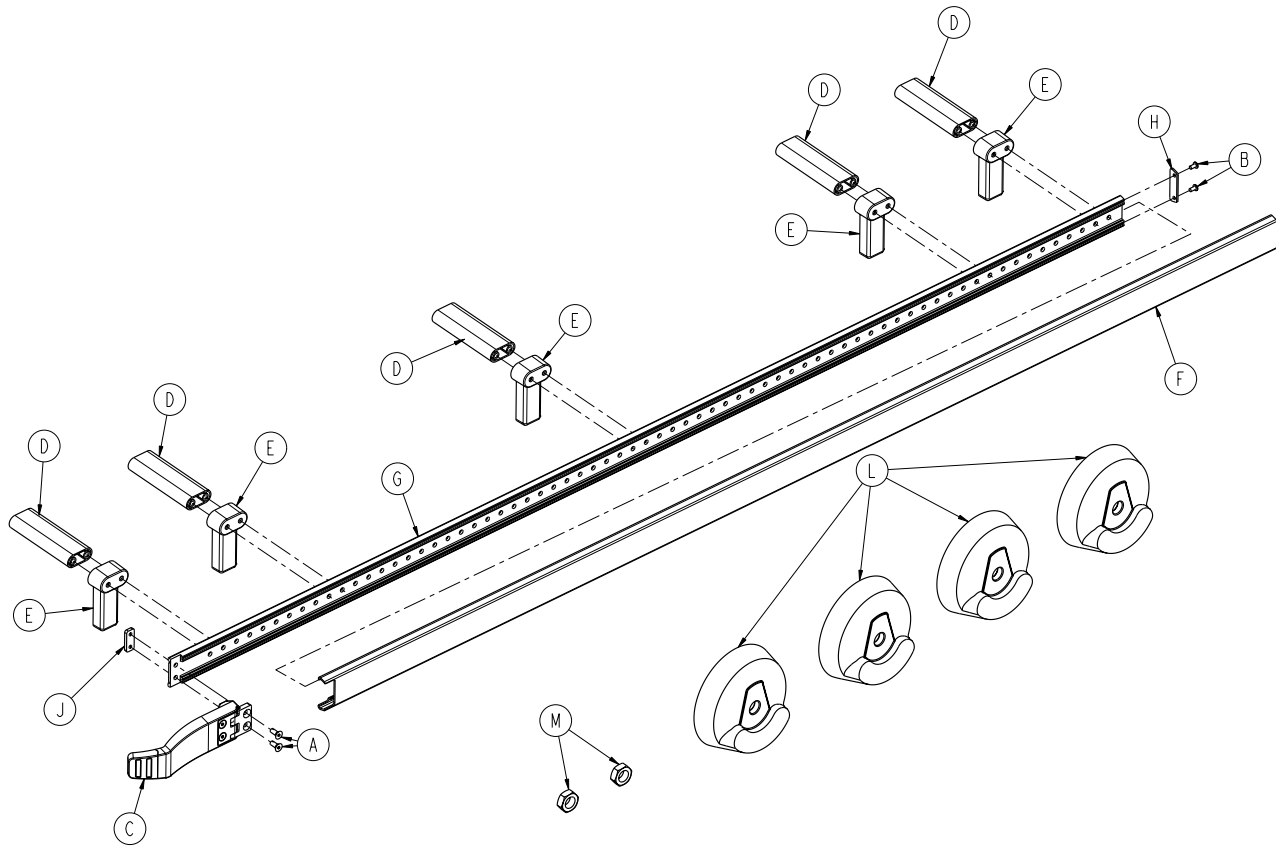

Figure 29: Optional Wheel Guide Kit Components - 6390-027-000
- Using a pencil, mark each of the holes in the five areas where a wheel guide support (E) will be located on the wall (cabinet) (Figure 29).
14. Slide the wheel guide rail bumper (6390-001-175) (F) over the wheel guide rail from the foot end of the vehicle patient compartment to the head end.
15. Using a 5/32" hex wrench, install the two flat head cap screws (0001-195-000) (A) through the wheel guide assembly (6390-001-017) (C) hinge and the wheel guide rail to the wheel guide nut (6390-001-191) (J) as shown in "Figure 29: Optional Wheel Guide Kit Components - 6390-027-000" on page 45.
16. Install the two toplock locknuts (0016-060-000) (M) and four wheel covers (6390-001-206) (L) to the patient right side of the cot that is to be used with the wheel guide assembly. See "Installing Cot Wheel Covers" on page 47.